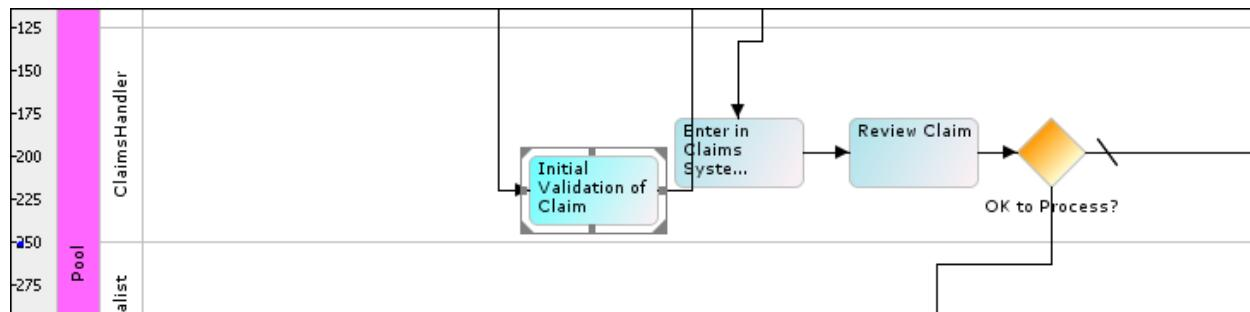

Figure 48: New Color for Pool
- Select the color for the Pool and click **OK**. This changes the Pool color to the new color (see Figure 48).